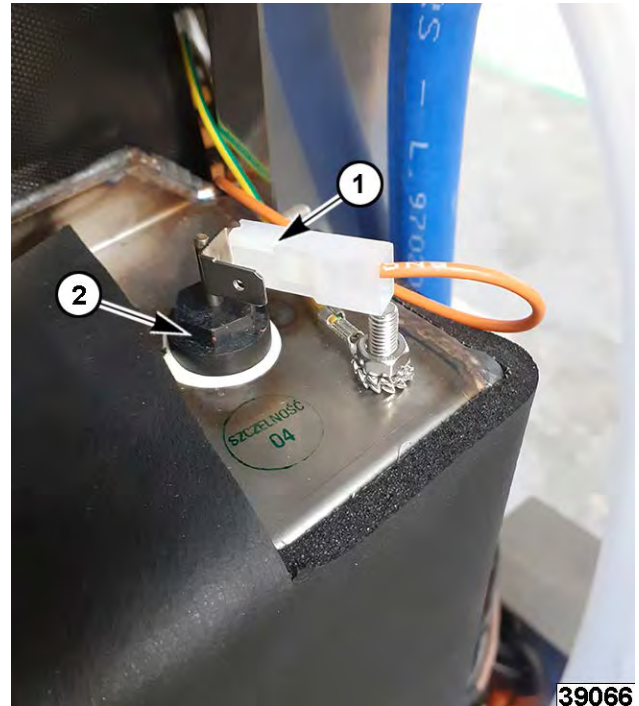

Fig. 48
- Note and disconnect water level sensor (2, Fig. 48) wire connector (1, Fig. 48).